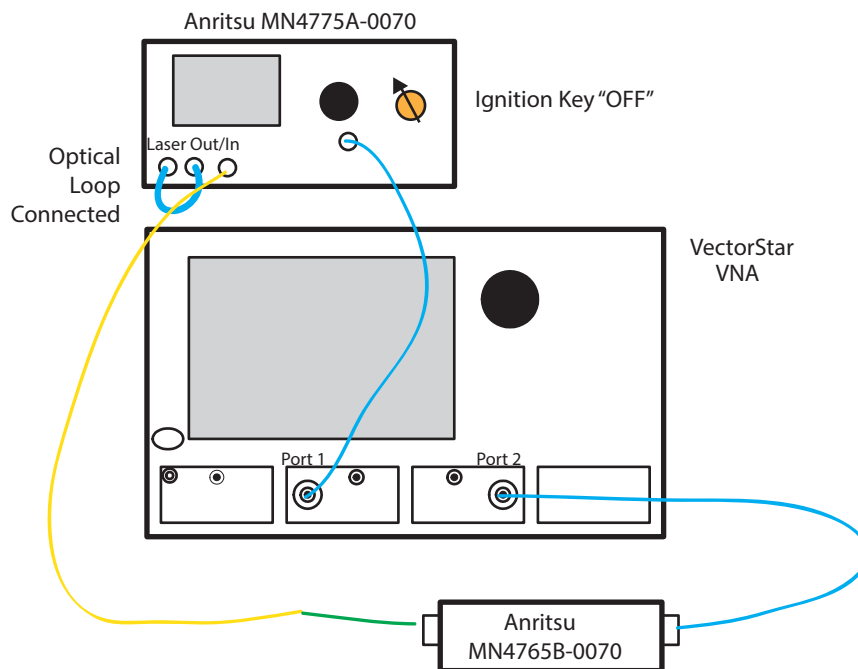

Figure 3-40. Optical Connection to MN4765B-0070
3. Connect **Yellow-colored** end of Optical Patch cable to MN4775A-0070 E/O Converter as shown in Figure 3-40.
4. Connect **Green-colored** end of Optical cable to MN4765B-0070 as shown in Figure 3-40.
5. Connect the VNA Port 1 to Anritsu MN4775A-0070 E/O Converter RF Input as shown in Figure 3-40.
6. Connect Anritsu MN4765B-0070 O/E Module Output to VNA Port 2 as shown in Figure 3-40.
8. Verify **Optical Loop** is in place on MN4775A-0070 E/O Converter as shown in Figure 3-40.